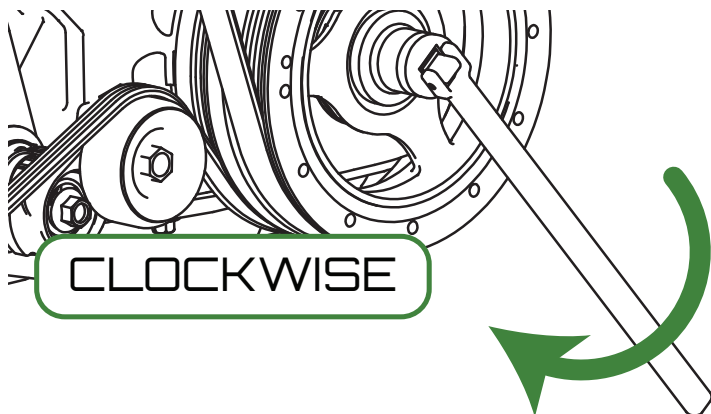

Figure 5 - Rotating the Engine Crankshaft with a Breaker Bar
8. Using a $\frac{1}{2}$ inch-drive breaker bar or ratchet with a 24 mm ($\frac{15}{16}$ inch) socket, manually turn the engine in the clockwise direction while carefully inspecting clearance / interference. This is shown in Figure 5.